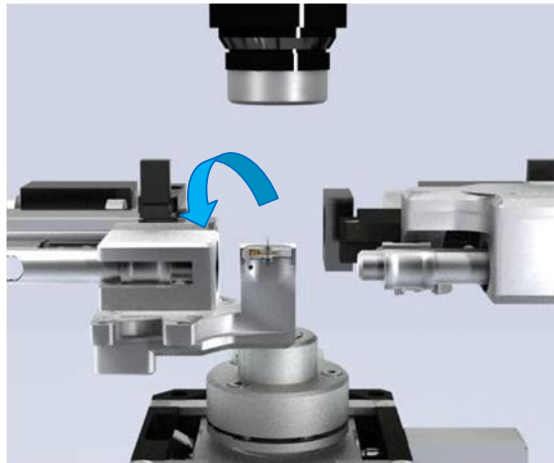
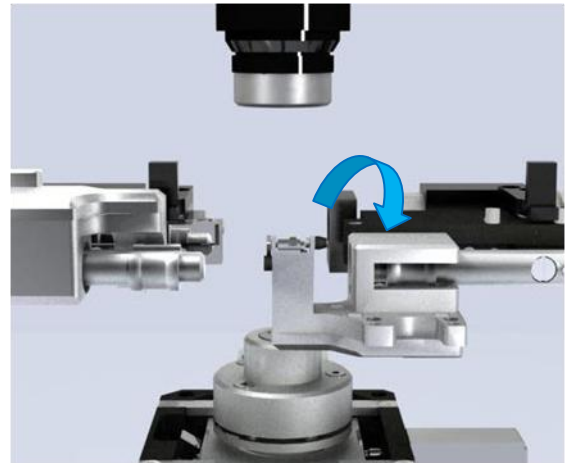

Fig. 1-6. STM head in position for exchanging the probe
Fig. 1-7. AFM head in position for exchanging the probe
- Position for exchanging the probe (Fig. 1-6, Fig. 1-7).